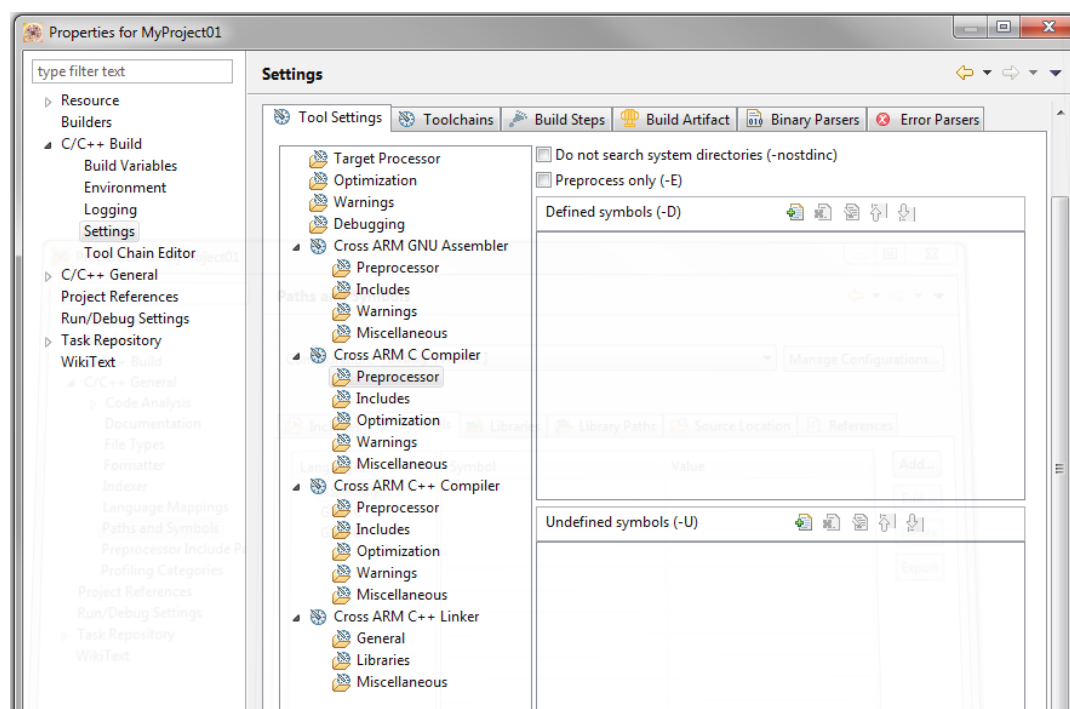

Figure 1-4. Defined symbols
2. Expand the C/C++ Build node and select Settings. See Figure 1-4.
3. In the right-hand part, under the Cross ARM C compiler node, click the Preprocessor node. See Figure 1-4.